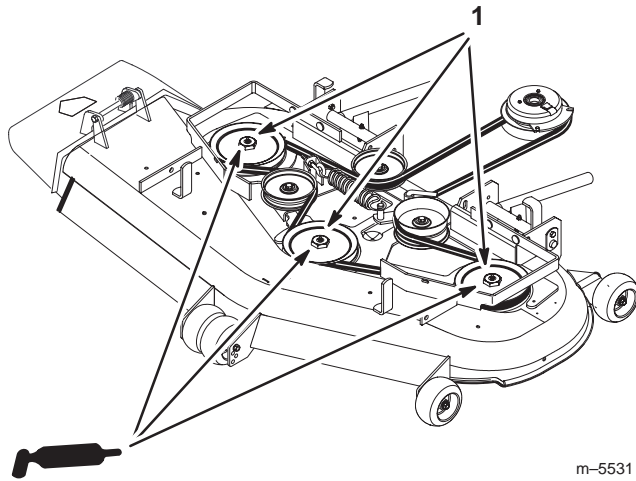

Figure 8
1. Grease the fittings on the three spindle bearings. Grease until it comes out lower seals (Fig. 8).